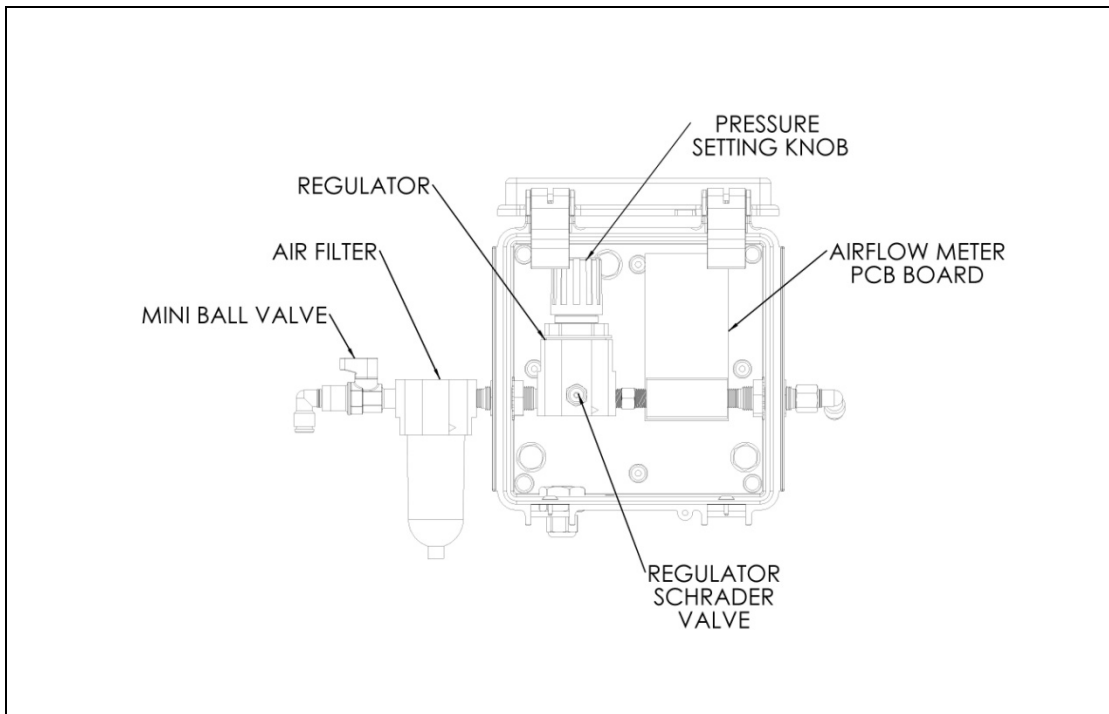

Figure 36
- If the pressure is above or below the desired setting, adjust the pressure using the adjustment knob. See Figure 36.